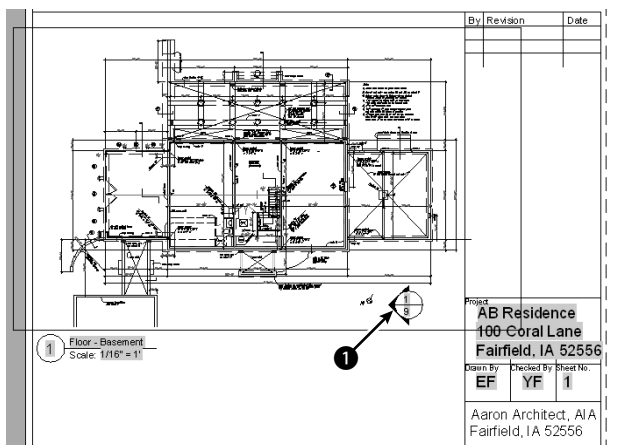

**Figure 26-25:** The basement floor plan.
5. Click the Model Views tab again. (You may want to auto-hide the Sheet Set Manager at this point.) Right-click Floor - Basement and choose Place on Sheet. Move the cursor onto the drawing area. Right-click and choose 1/16"=1'. Place the viewport all the way to the left of the layout. (The view doesn't fit perfectly, but that's okay for this exercise.) The result should look like Figure 26-25, except without the callout block. (If you want, continue to place the floor-plan views on the floor-plan sheets, matching the 1st- and 2nd-floor views to the 1st- and 2nd-floor sheets. You can also do the same for the four elevation views.)
8. To place a callout bubble on the basement floor plan that references the Exterior Section sheet, choose that drawing from the Window menu. Click the Sheet Views tab. This tab now lists the views that you just placed. Right-click the Section 2 view (the one that you're pointing to) and choose Place Callout Blocks ⇨ callout bubble-left arrow. At the prompt, pick ❶ in Figure 26-25. The fields in the callout block show the correct view and sheet numbers.